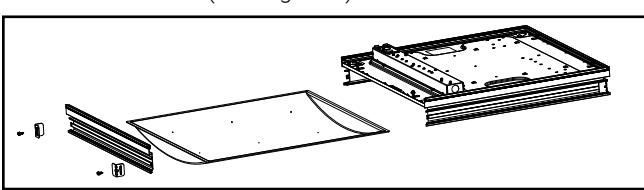

Figure 6.
4. Slide lens out. (See Figure 6).